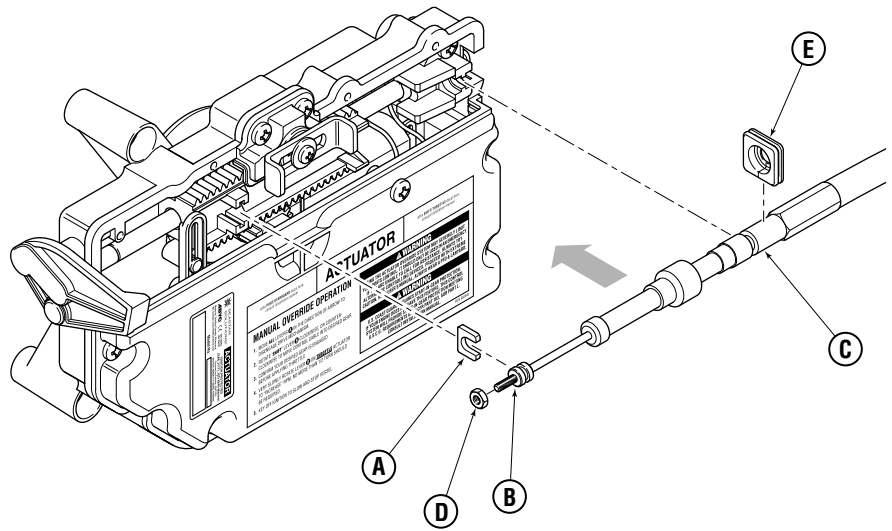

Figure 4-13. Actuator cable installation.
1. Position the U-shaped steel retainer clip (A) into the slot on the actuator rack as shown in figure 4-13.
2. Screw the adjustment barrel (B) onto the cable end to the point where the cable can be set into the actuator with the barrel engaging the steel retainer clip (A) and the cable housing groove (C) engaging the cable mount in the actuator. Ensure there is enough cable sticking out of the adjustment barrel (B) to install and tighten the lock nut (D).
8. Tighten the actuator side lock nut (see figure 4-13) for both shift actuators. Once the final adjustments are made you will need to apply Loctite 242 to the threads, but you will do this after the sea trial.
6. Tighten the actuator side lock nut (see figure 4-13) for both throttle actuators. Once the final adjustments are made you will need to apply Loctite 242 to the threads, but you will do this after the sea trial.